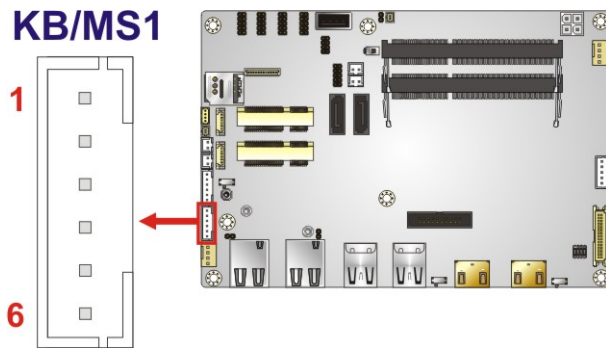

Figure 3-10: Keyboard and Mouse Connector Location
- CN Location:** See **Figure 3-10**